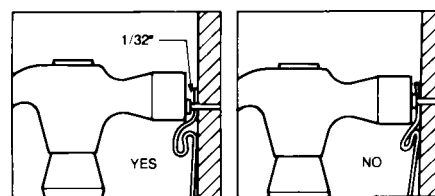

FIG. 6 Attachment of Vinyl Siding
9.1.1 When applied, vinyl siding products must be attached "loosely," leaving approximately a $\frac{1}{32}$ -in. (0.8-mm) space between the vinyl and the fastener head or crown to permit thermal movement. (See Fig. 6.)